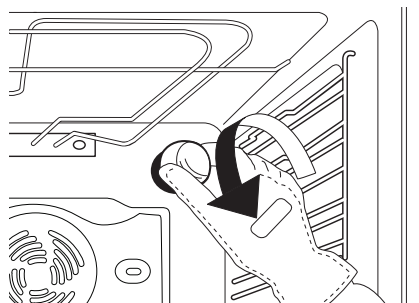

Fig. 5
2. Unscrew the lamp cover (Fig. 5), replace the lamp (see note for lamp type) and screw the lamp cover back on.